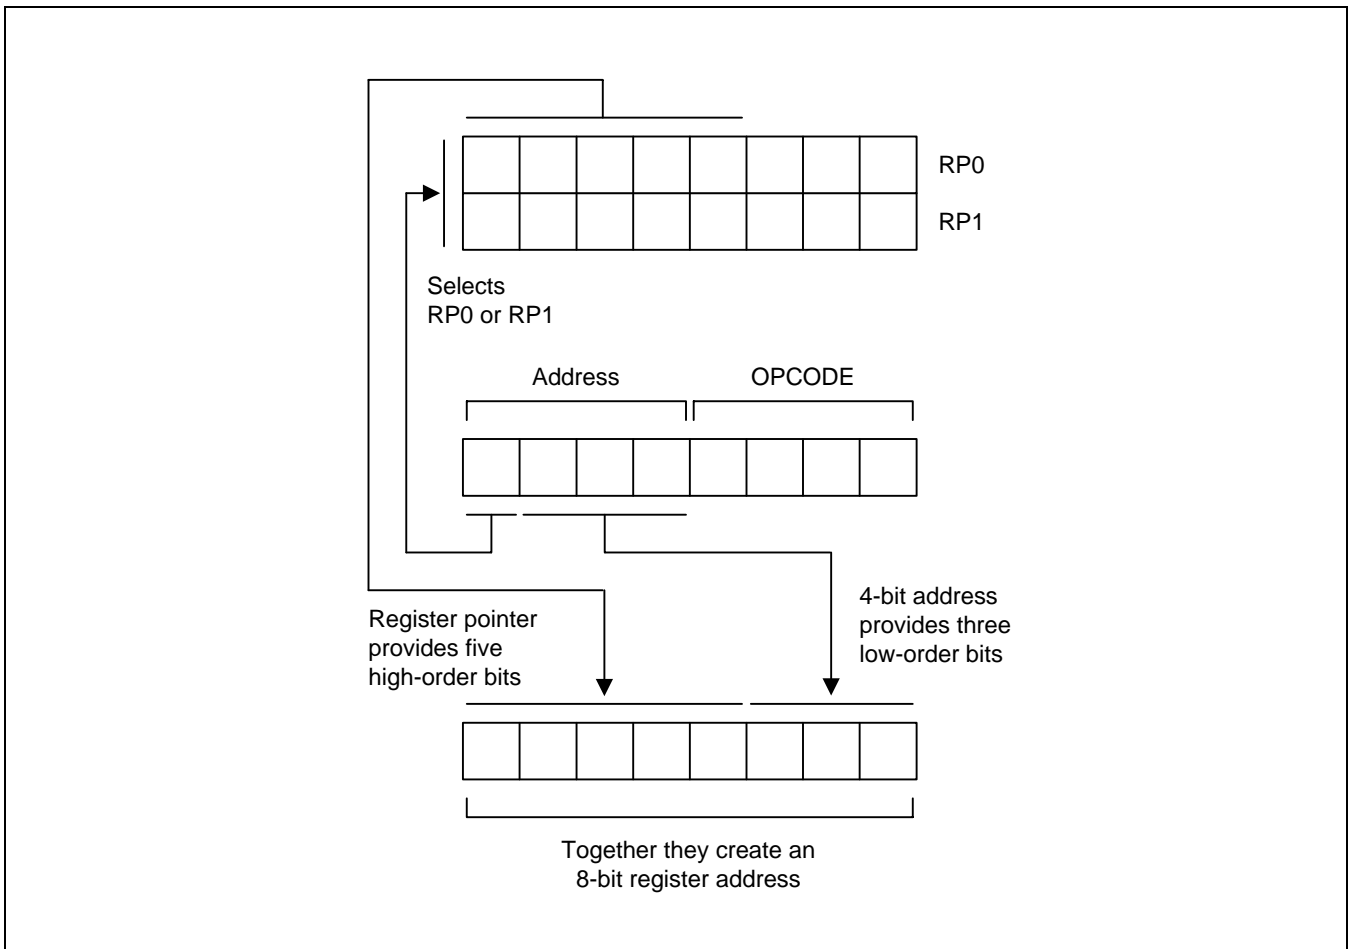

Figure 2-14. 4-Bit Working Register Addressing
Figure 2-14 shows an example of 8-bit working register addressing. The four high-order bits of the instruction address (1100B) specify 8-bit working register addressing. Bit 3 ("1") selects RP1 and the five high-order bits in RP1 (10101B) become the five high-order bits of the register address. The three low-order bits of the register address (011) are provided by the three low-order bits of the 8-bit instruction address. The five-address bits from RP1 and the three address bits from the instruction are concatenated to form the complete register address, 0ABH (10101011B).